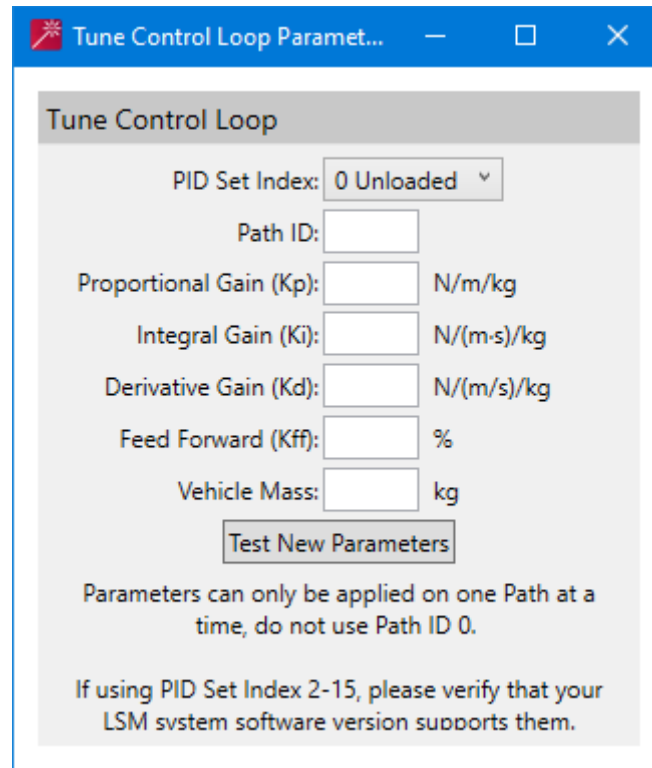

Figure 2-100: Tune Control Loop Parameters Dialog Box
*The **Tune Control Loop Parameters** dialog box is displayed as shown in Figure 2-100.*